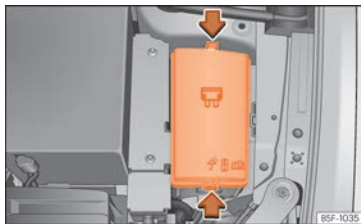

Fig. 52 In the engine compartment: fuse box cover.
- Press the locking tabs to release the fuse box cover » **Fig. 52**.